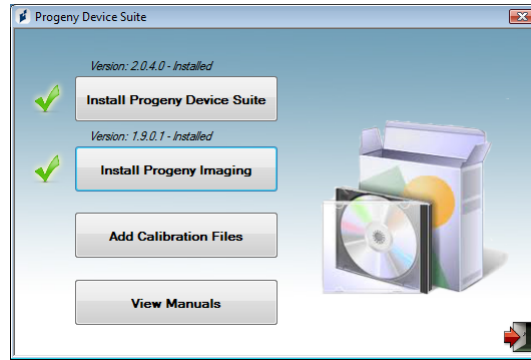

Figure 8: Main screen of the calibration file installation
- The main screen of the calibration file installation is shown on Figure 8. If the software on the USB flash drive does not start automatically, navigate to Windows Explorer™ and select the drive letter labeled "Progeny". Browse to the content of the flash drive and start "Setup.exe". This step begins the installation process.